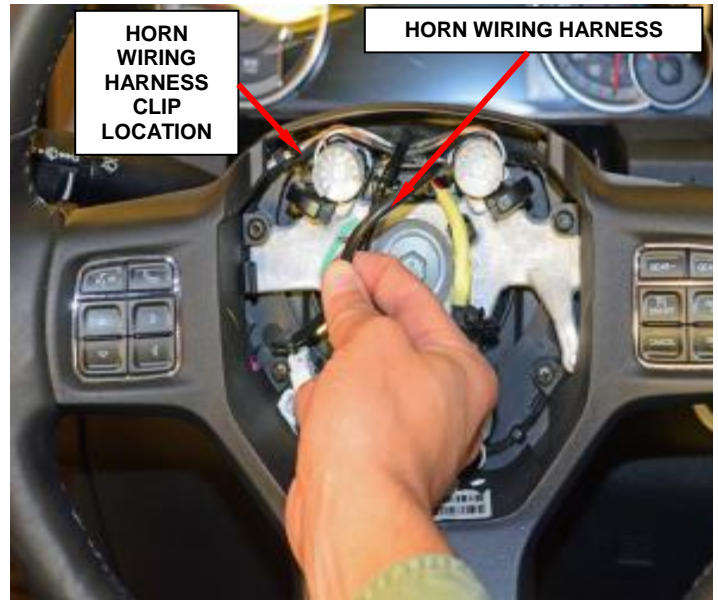

Figure 5 – Horn Wiring Harness
13. Unclip the horn wiring harness and move it down to gain access to the steering wheel harness (Figure 5).
17. Position the horn wiring back into the clip (Figure 5).